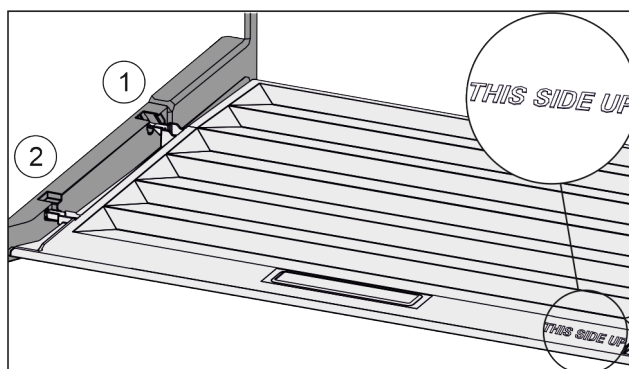

Fig. 76
- Insert the lip of the cover over the opening of the rear bracket Fig. 76 (1) and click into place Fig. 76 (2).